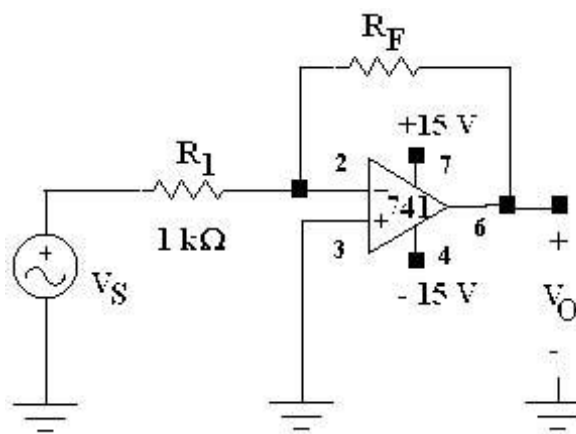

Figure 1
The operational amplifier is probably the most frequently used linear integrated circuit available. Applications for operational amplifiers range from the simple voltage amplifiers discussed in this experiment to complex circuitry that is beyond the scope of this course. The amplifier configurations investigated in this experiment are the basic building blocks of modern electronic circuits. There are two basic configurations for operational amplifier circuits: the inverting amplifier and the noninverting amplifier. Operational amplifiers ideally have infinite open-loop gain and infinite open-loop input resistance. Open-loop characteristics refer to those of an amplifier having no feedback resistance between output and input. Closed-loop characteristics are those of an amplifier having an external feedback resistor. The resistor provides negative feedback, whereby a portion of the output voltage is subtracted from the input. Both the inverting and noninverting amplifier use the principle of negative feedback to control the overall (closed-loop) voltage gain. Figure 1 shows a typical inverting amplifier configuration. An ideal inverting amplifier's voltage gain is determined by:
1. To investigate an operational amplifier used as an inverting amplifier, connect the circuit in Figure 1. The small numbers in the diagram correspond to the integrated circuit's (chip's) pin numbers, as shown in specification sheets. (NOTE: If oscillation occurs it may be necessary to add 0.1 μF capacitors from each supply pin to ground. Also keep this in mind when performing all future op-amp experiments.)